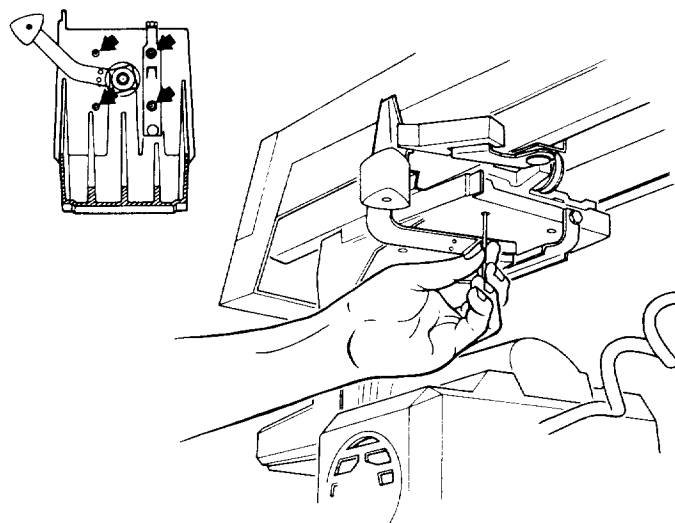

Fig. 72
7. Loosen the four screws under the *yoke* using a 1/8 inch hex-L wrench and pliers if necessary. (Figure 72)